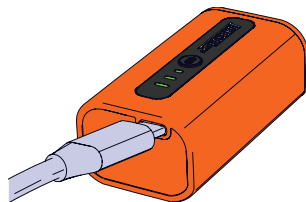

Figure 2
3. Connect a Type C, USB adapter/charger to battery charging port located on the front of the battery. (Figure 2)